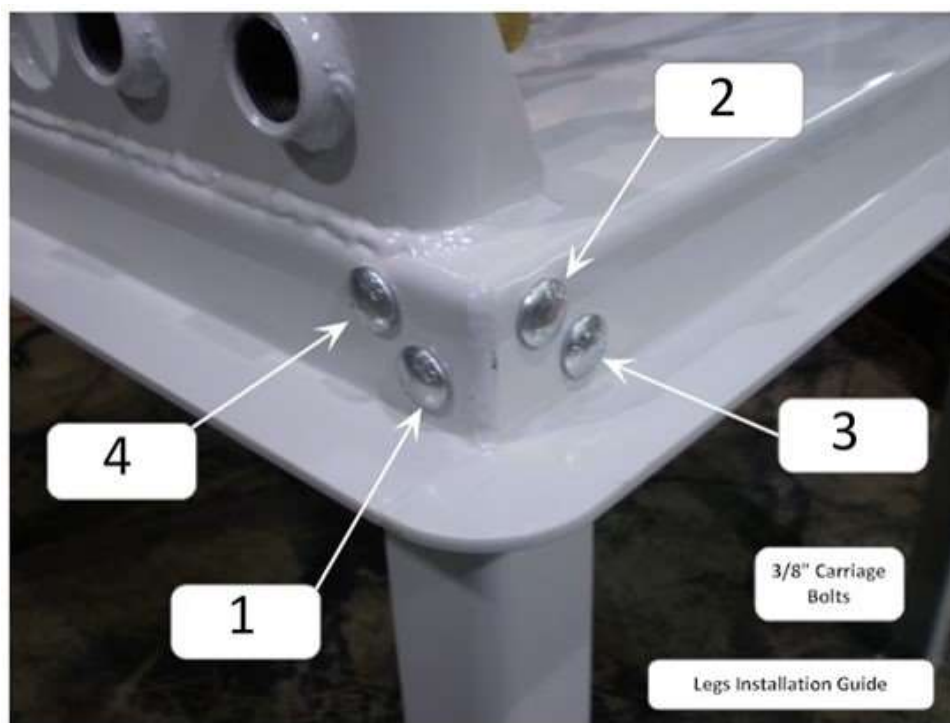

Figure 1-1: Bolting sequence to attach legs to the GREEN MACHINE base
2. Install the 4 legs on the GREEN MACHINE. The four 3/8" carriage bolts for each leg MUST BE INSTALLED AND TIGHTENED IN THE SEQUENCE INDICATED ON **Figure 1-1**.